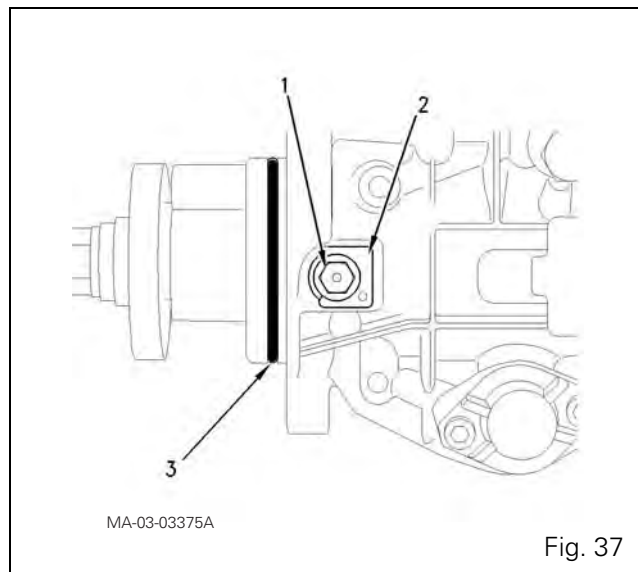

Fig. 37
The injection pump pin should not be turned without the spacer (2) (Fig. 37) in position under the lock screw (1). Before turning the crankshaft or assembling the injection pump, position the spacer (2) under the lock screw (1) to ensure that the pump pin is not locked.
184. Fit a new "O" ring (3) (Fig. 37) to the injection pump flange.